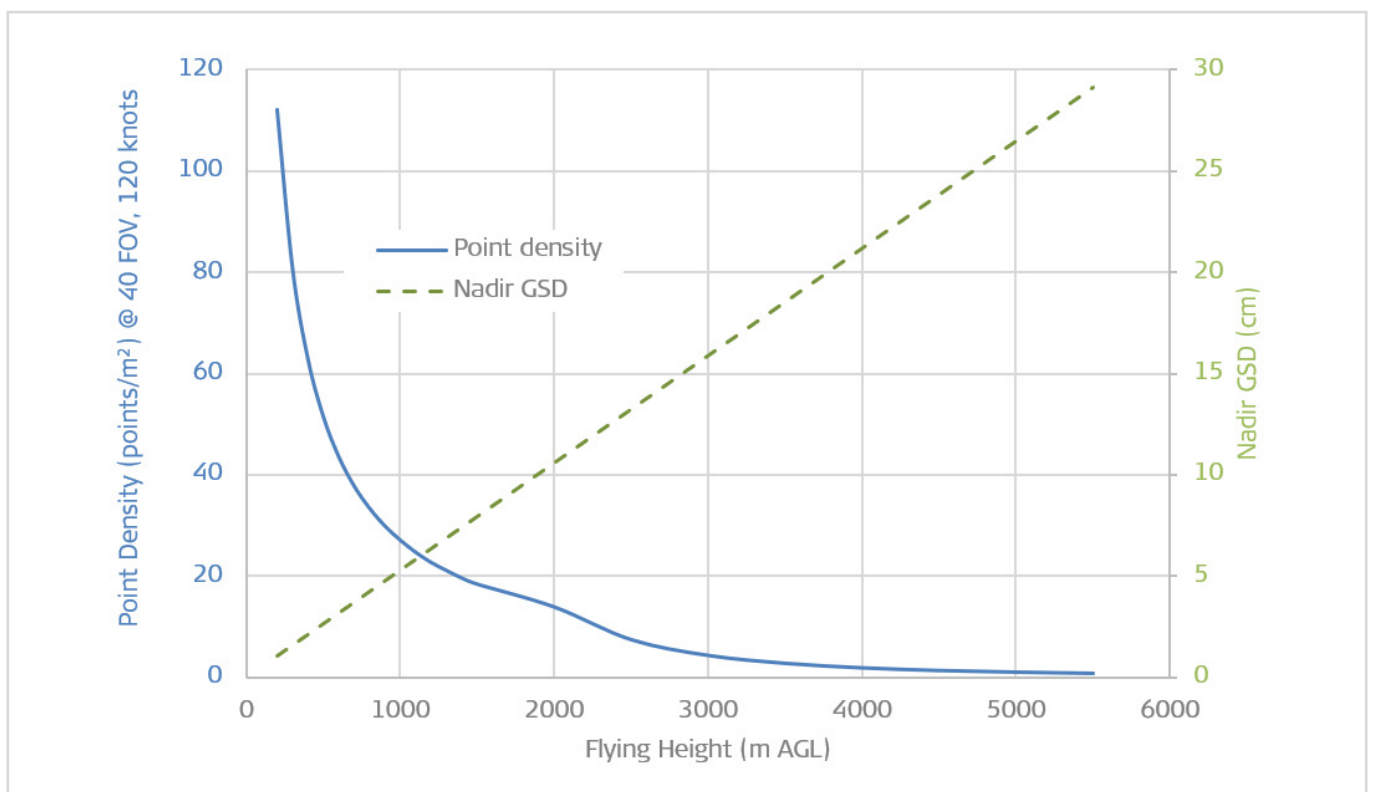
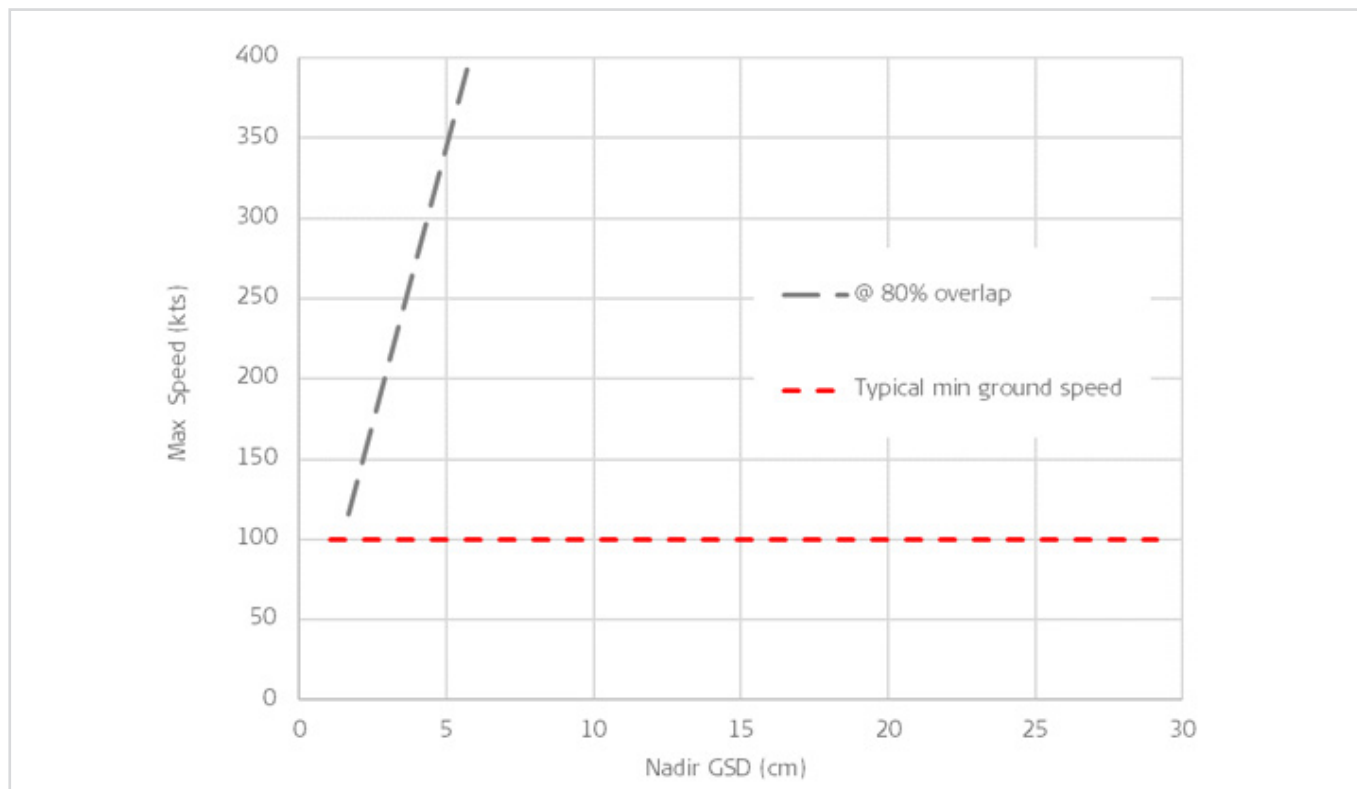

Fig. 4: GSD and Point Density versus Flying height for TerrainMapper-2
Fig. 5: Maximum Ground Speed vs. GSD at 80% Forward Overlap
**Flight Speed and forward overlap:** For many projects the current trend is toward having a ground resolution  $< 5$  cm. At the same time, most cases require a forward overlap of 80 % for the acquired imagery. With a slow aircraft supporting a flight speed over ground down to 100 knots a GSD of 3cm at 80 % forward overlap is possible for TerrainMapper-2. Fig. 5 gives a detailed overview of maximum flight speed over ground for a given GSD while maintaining 80 % forward overlap. The LiDAR point density is highly dependent on flight speed and flying height. This relationship is shown in Tab. 2 and Fig. 4, giving a detailed overview for a speed over ground of 120 knots.